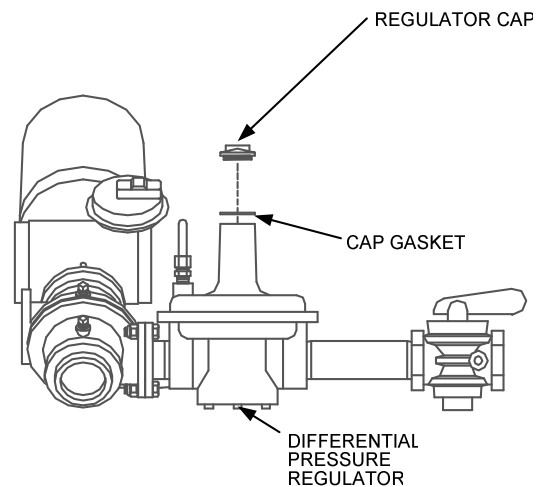

Figure 4.3
- If the measured oxygen level is **not** within the range listed in Table 1, remove the regulator cap and cap gasket from the differential pressure regulator (see Figure 4.3) and proceed to step 14.